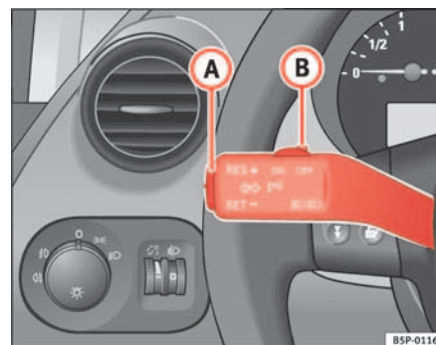

Fig. 142 Turn signal and main beam lever: switch and rocker switch for CCS
- Press the upper part of the rocker switch **RES** ⇒ fig. 142 **(A)** to increase the speed. The vehicle will continue to accelerate for as long as you keep the rocker switch pressed. When you release the switch, the new speed is stored.
Control of the set speed is switched off if you reduce speed by depressing the brake pedal. You can reactivate the control by pressing once on the upper part of the rocker switch **RES+** ⇒ page 170, fig. 142 **A**.